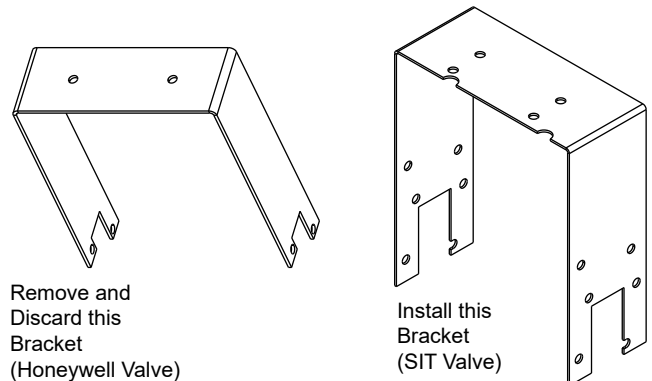

Fig. 1 Valve Bracket
2. Install new valve bracket. Refer to Figure 1 for correct bracket.